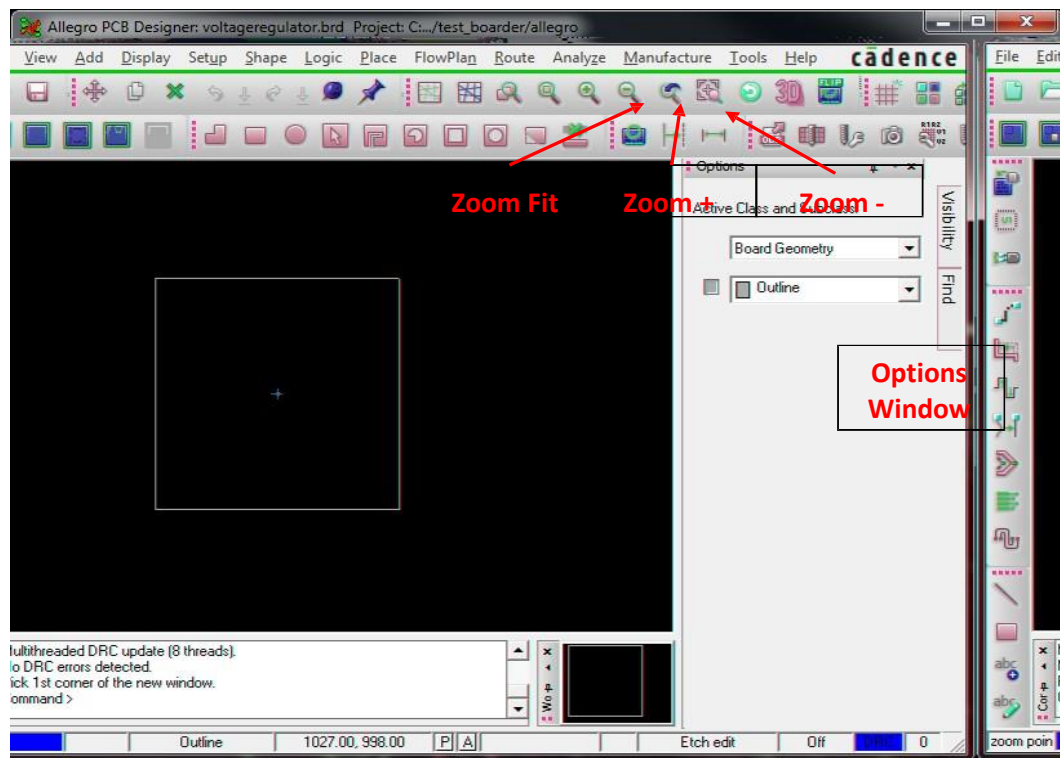

Figure 5. Design showing board outline.
- d. Select Next and Finish. Select the Zoom Fit button and the Zoom + or Zoom – button to see your board. You should see something similar to Figure 5. You can open the Options window by selecting the tab to the right of the design and then clicking on the “push pin” icon.